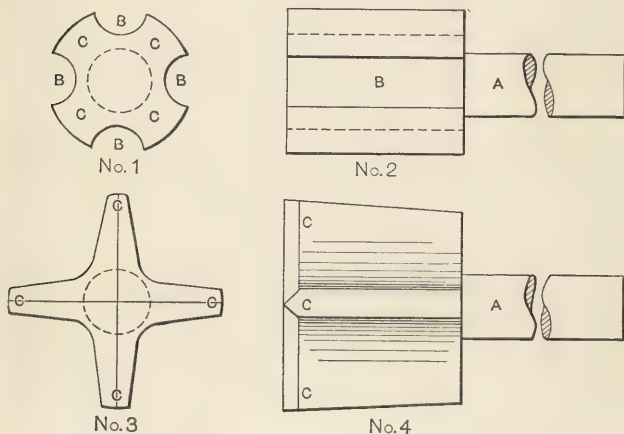

Fig. 49. Four-lip Rock Drill.
**Rock Drill.**—While not to be classed with machine shop tools, the making of a rock drill is a tool steel job that a blacksmith often has to do. Fig. 49 shows how to make a four-lip rock drill, the fastest working rock